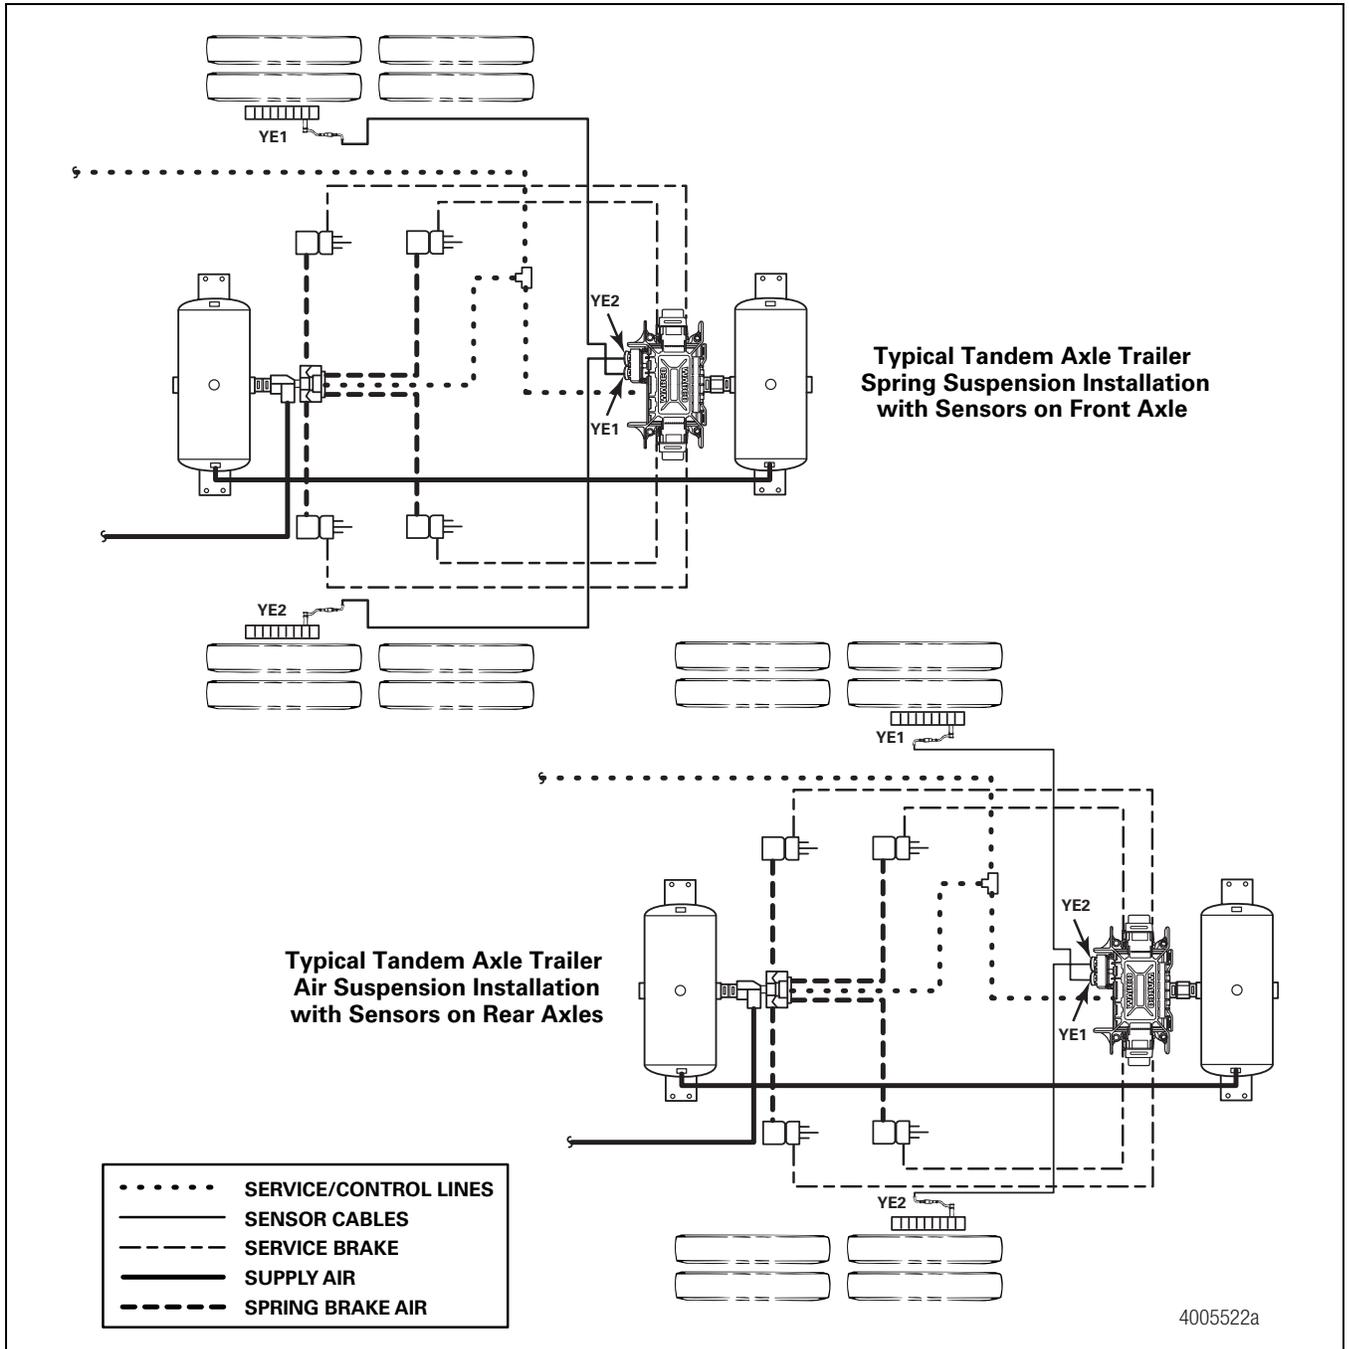

**Figure 10**
- **For industry-standard connector cables:** Attach the power cable to the harness on the trailer. Figure 10.
- **For an optional blunt-cut power cable:** Wire the cable and ABS indicator lamp to the seven-way connector on the trailer according to the following diagram. Figure 10.